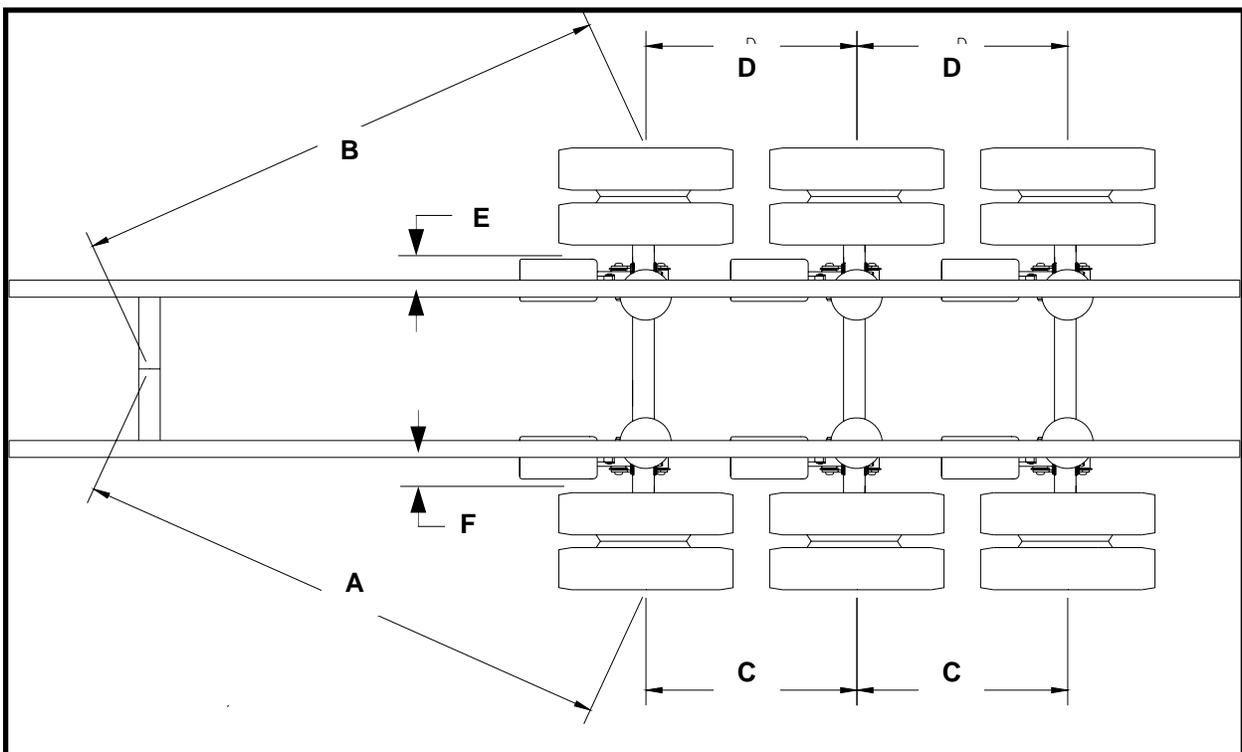

Figure 3
5. Using 1/2" break overs and/or ratchets, rotate the other two collars on the other hanger so the suspension moves forward or backward to allow the distance from center of spindle to kingpin (**Figure 3** Dimension **A & B**) to be equal distance within 1/8". **Note: Rotate inside and outside Eccentric Collar together at the same time.**
8. Make sure axles protrude evenly on both sides from frame. **Figure 3** dimensions **E** and **F** must be within 1/4" of each other.
10. Additional suspensions should be aligned per **Figure 3** using the **C & D** dimensions with only 1/16" maximum variations.